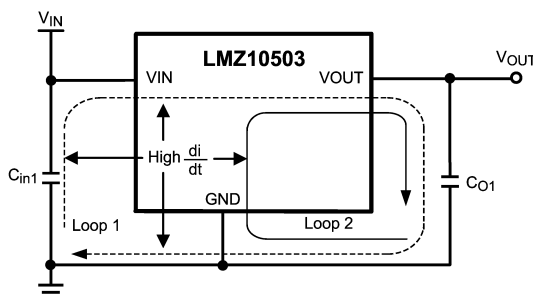

Figure 21. High Current Loops
From an EMI reduction standpoint, it is imperative to minimize the high di/dt current paths. The high current that does not overlap contains high di/dt, see Figure 21. Therefore physically place input capacitor (C_{in1}) as close as possible to the LMZ10503 VIN pin and GND exposed pad to avoid observable high frequency noise on the output pin. This will minimize the high di/dt area and reduce radiated EMI. Additionally, grounding for both the input and output capacitor should consist of a localized top side plane that connects to the GND exposed pad (EP).